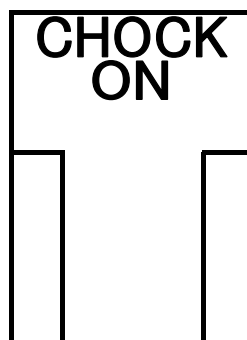

Fig.13
- (5) When the operator applies chocks, and switches on "CHOCK ON" switch, the display screen will display "CHOCK ON". (Fig.13)